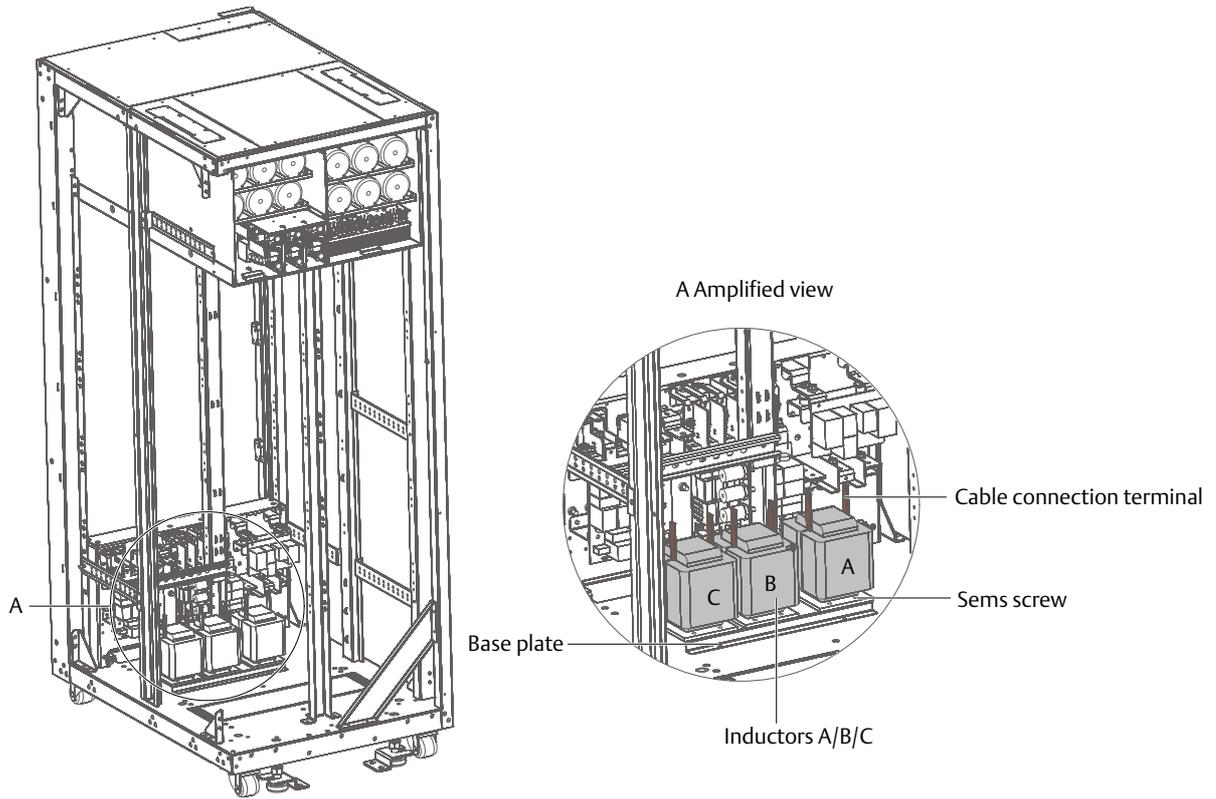

Figure 8-2 Position of bypass load sharing inductors
3. Install the three bypass load sharing inductors, see Figure 8-2.
There are 12 installation holes on the base plate of the UPS cabinet for fixing the three inductors, four installation holes for each inductor. Place the three inductors in the installation positions shown in Figure 8-2, and secure them to the base plate of the UPS cabinet using the M5 × 12 SEMS screws (12 pcs).